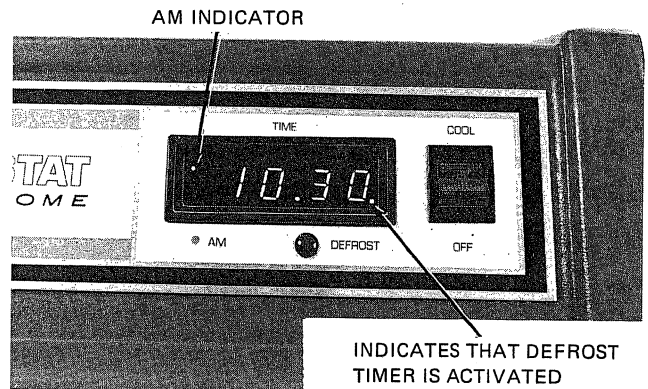

Figure 8
2. Red dot in upper left corner of clock display indicates AM hours, Figure 8.
1. Turn refrigeration system on by pushing the "COOL/OFF" switch located on the right side of the control panel, to the "COOL" position, Figure 8.
5. A red dot in the lower right-hand corner of the clock display indicates that the defrost timer is on and defrosting will start at the pre-selected time, provided the cabinet temperature is below 10°C, Figure 8.